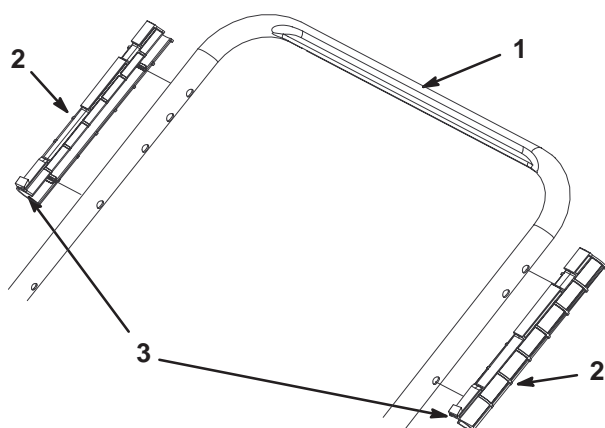

Figure 5
1. Position the handle guides on the upper handle section (as shown in Figure 5) and snap them into place.